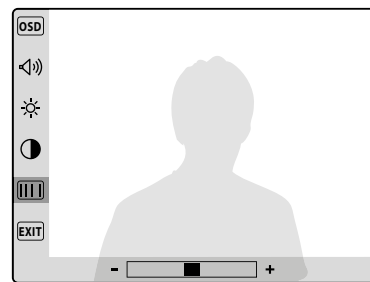

Fig. 3C
- The picture hue (8 levels **Fig.3C**);